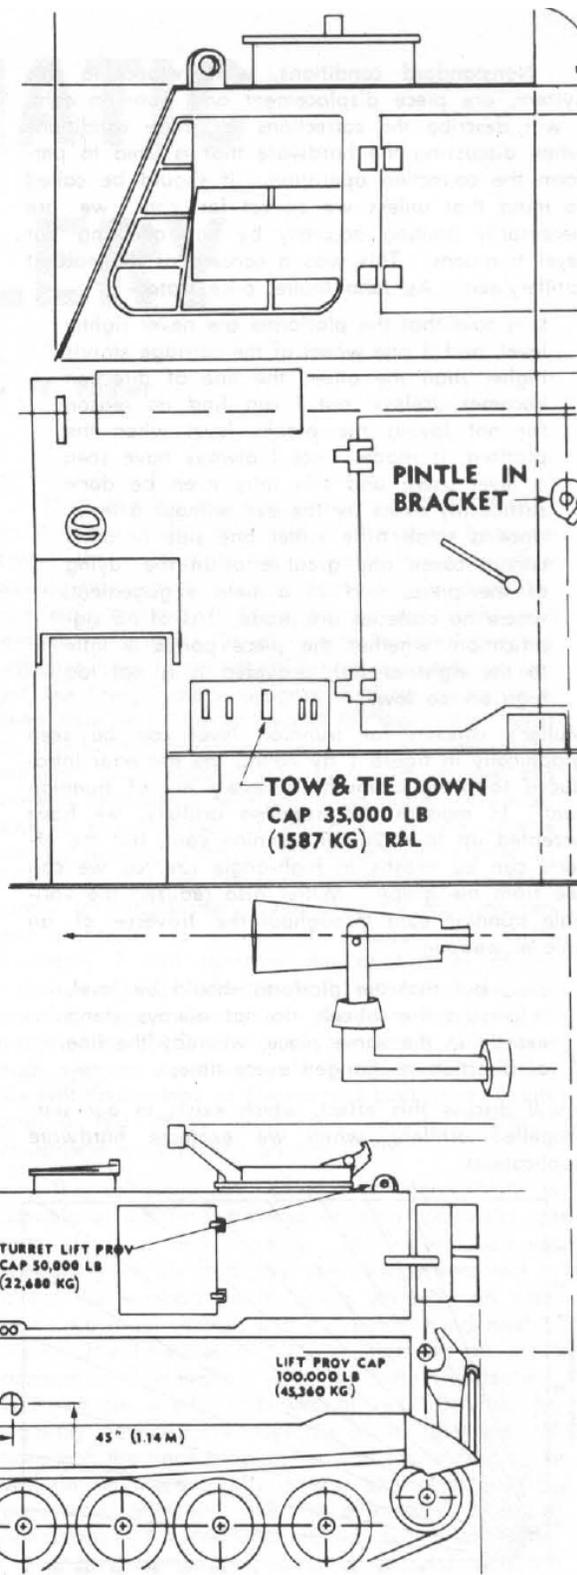

Figure 3. Piece Displacement Sight Mount
**b. Piece Displacement Sight and Servo correction Factor.** On a rear lift point of the M109 is mounted a telescopic sight (fig 3) with a reticle similar to that of a panoramic telescope. This sight, which is used only to detect piece displacement during firing, consists of a traversing telescope and a coaxial servo correction member. The sight is zeroed on a collimator by the gunner at the time the piece is laid. The servo correction member at this point registers no voltage. When an angle is turned on the sight from the zero position to correct for displacement, the angle turned is electrically and inversely applied to the servo orientation value by a signal from the servo correction member. At this time the sight maintains displacement on the collimator alignment, the servo correction member is rezeroed for subsequent corrections, and the servocontrol continually maintains the corrected orientation.